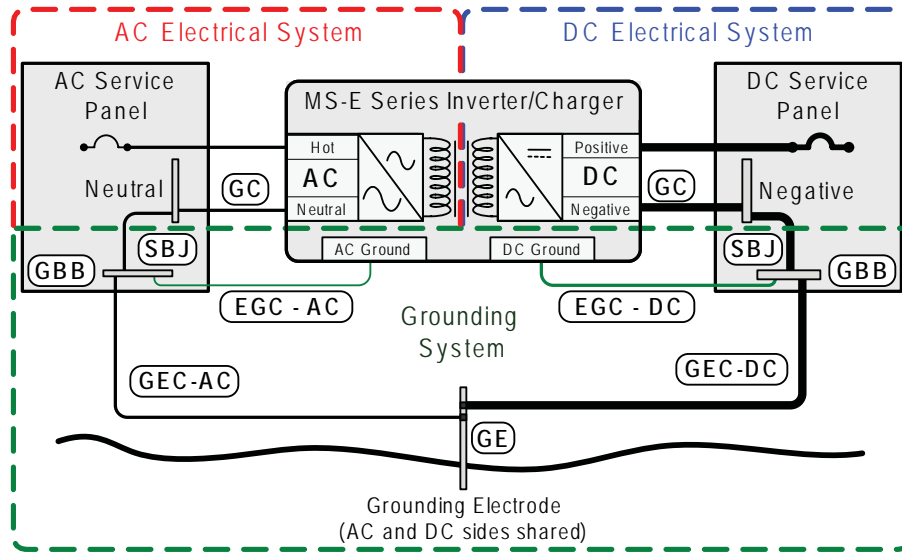

Figure 2-14, Multiple Connections to DC Ground Rod (Method 2)
Method 2 (Figure 2-14): When the AC and DC service panels are near each other, then the AC grounding electrode conductor (GEC-AC) and the DC grounding electrode conductor (GEC-DC) can be connected to a single grounding electrode (GE). In this method — since there are multiple connections to the DC grounding electrode (GE-DC) — the size of the DC grounding electrode conductor (GEC-DC) can not be smaller than the largest conductor in the DC system (usually the battery-to-inverter cable).